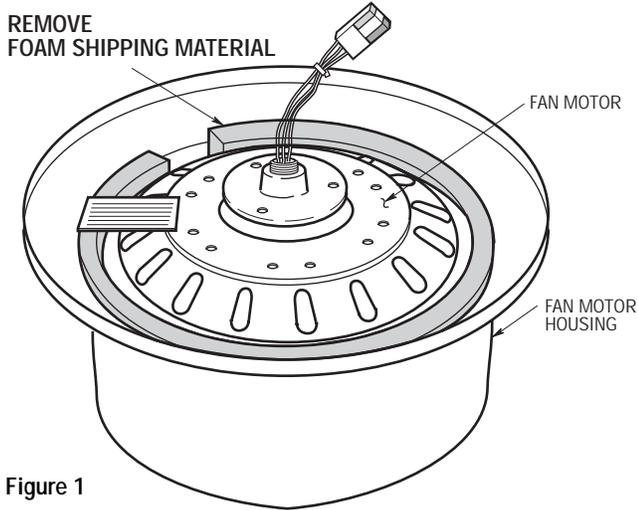

Figure 1
1. Remove the fan motor assembly from the protective plastic bag and then carefully remove the foam shipping material from between the fan motor and the upper housing (Figure 1).